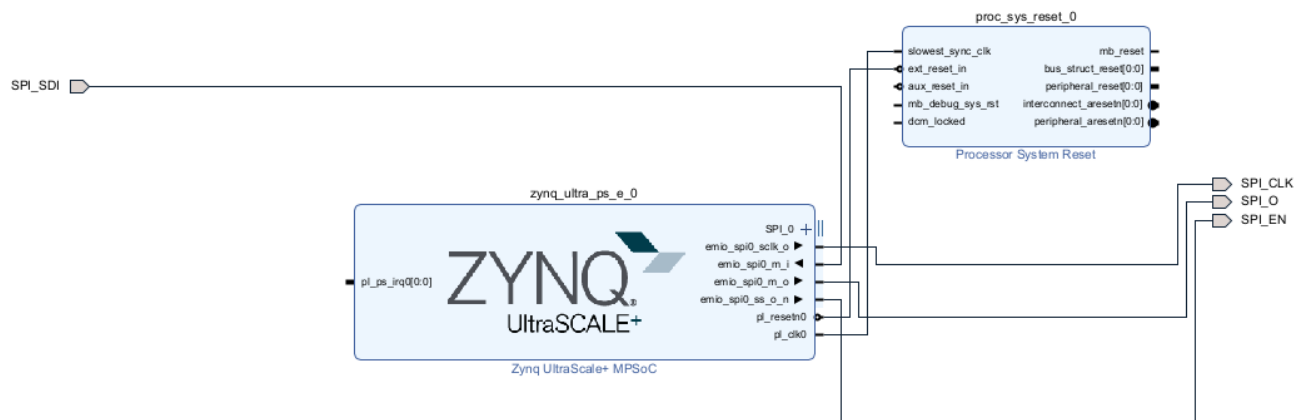

Figure 4-6. Example Project
Step 4: Save and validate the design. Press Ctrl + S to save the design. Press F6 to validate the design. The final design should resemble Figure 4-6